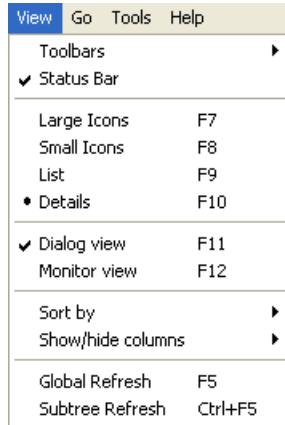

Figure 2-16 Menu bar - View
- **View:** It provides the functions needed for viewing the information in a project, and setting the way in which a working environment is displayed, as shown in figure 2-16.